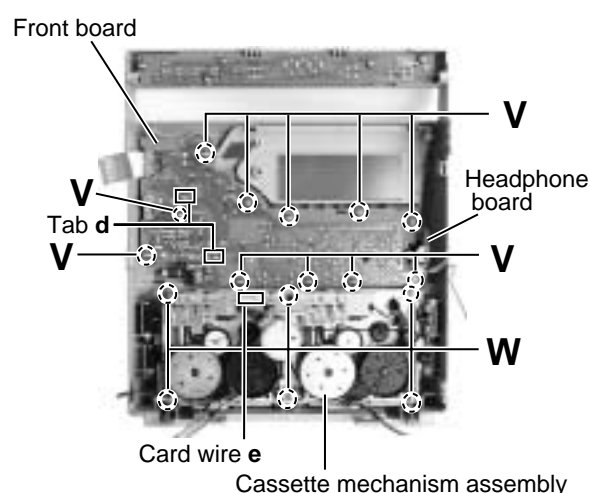

Fig.21
■ Removing the headphone board (See Fig.21)
■ Removing the front board (See Fig. 21 and 22)
■ Removing the cassette mechanism assembly (See Fig.21)